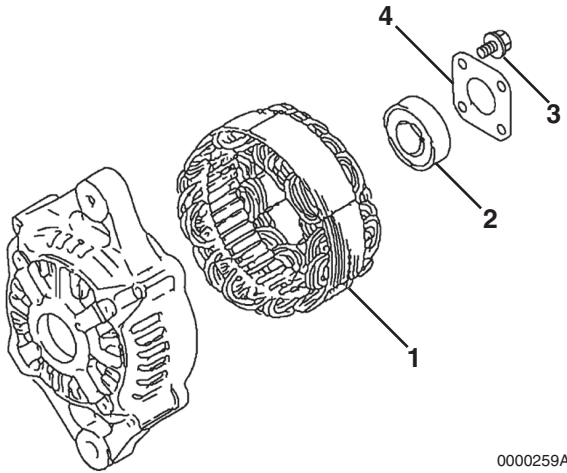

Figure 12-10
9. Remove the stator assembly (**Figure 12-10, (1)**) from the front frame housing.
10. If it is necessary to replace the bearing (**Figure 12-10, (2)**) in the front frame housing, remove the four bolts (**Figure 12-10, (3)**) securing the plate (**Figure 12-10, (4)**) to the front frame housing. Remove the plate. Use a puller to remove the bearing. Discard the bearing.